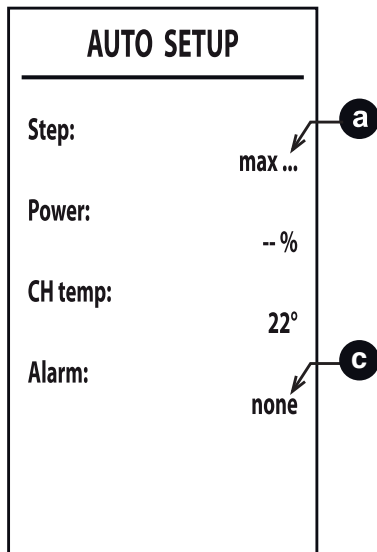

fig. 37
- 5 After ignition, the burner goes to heating at the various powers (max, med, min) indicated by point **a** (fig. 37). If the system heat dissipation is not sufficient to end the procedure, a DHW request can be activated **only after the burner has ignited**.
- 7 If the ignition sequence described in point "6" is unsuccessful, the message **max_err** will appear at point **a** and an error code at point **c** (fig. 37).